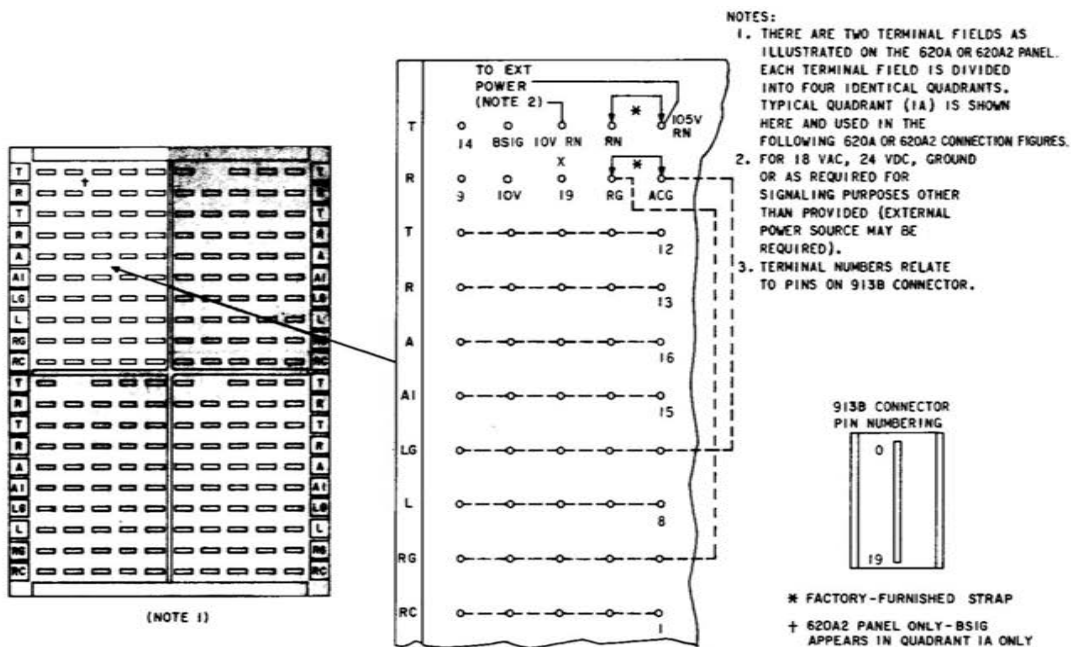

Fig. 14—Terminal Field Illustration and Terminal Designations for 620A (MD) or 620A2 Modular Panel (CO/PBX and Private Line Services)
**4.02** Preceding the 620A-type and 642A modular panel connections are typical terminal field illustrations of those panels showing the upper left-hand quadrant (1A) of the quick-connect field as an example of all its quadrants (Fig. 14 and 39).